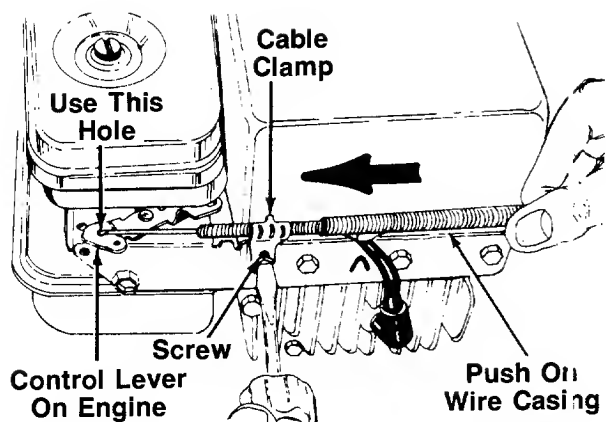

FIGURE 6A.—Models 250R, 252R and 262R
2. The throttle control cable is attached to the upper handle. Route the throttle control cable under the lower handle, inside the handle mounting bracket and underneath the drive cover. Hook the "Z" end of the throttle control cable into the arm on the control lever on the engine which has two holes, using the **outside** hole as shown in figure 6A.
3. Remove the screw on the cable clamp on the engine shown in figure 6A. Slip the control casing under the clamp. Replace the screw, but do not tighten (cable must still move freely beneath the clamp).
4. Slide the control lever on the engine as far toward the **outside** of the engine as it will go. Push the wire casing on the throttle control cable toward the control lever on the engine as shown in figure 6A as you tighten the screw on the cable clamp to secure the cable in this position.